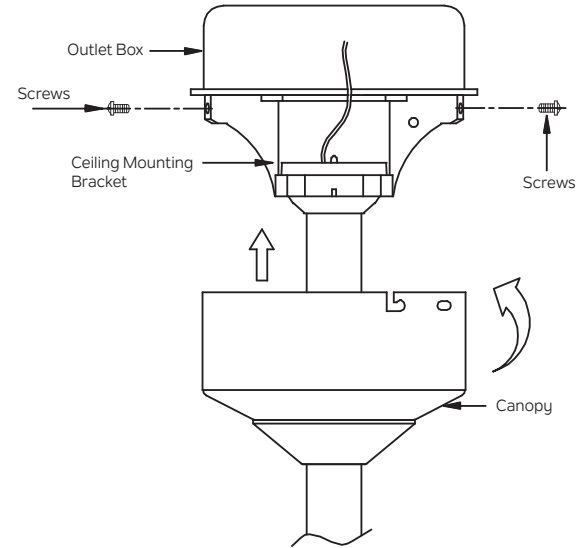

Fig. 17
**Step 2.** Slide the canopy up to ceiling and attach the canopy to the ceiling mounting bracket using 4 screws at the top edge of the mounting bracket. Insert each screw through the canopy mounting hole and into the mounting bracket. Tighten all screws securely. (Fig. 17)